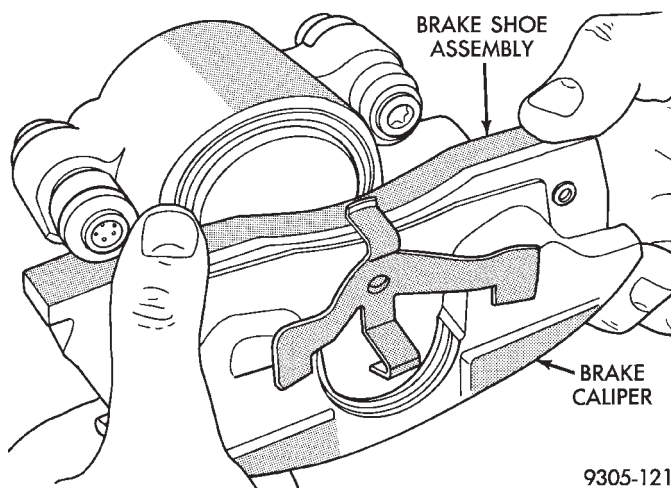

Fig. 9 Installing Outboard Brake Shoe Assembly
(6) Slide the new outboard brake shoe assembly onto the caliper assembly (Fig. 9).